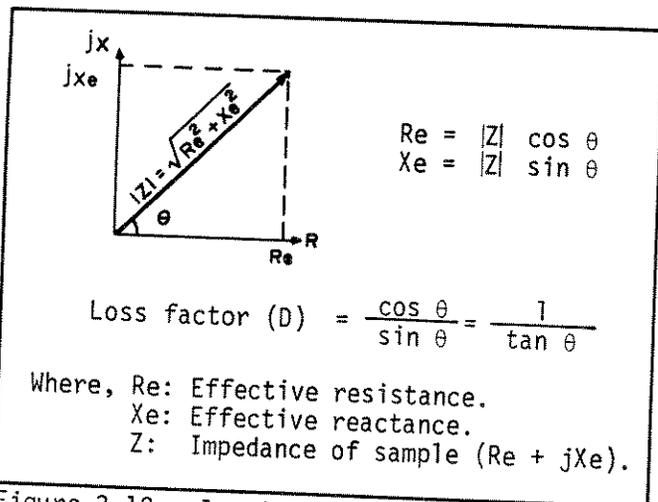

Figure 3-12. Impedance Vector Representation.
Impedance of a component can be expressed in vector representation by a complex number as shown in Figure 3-12. In such representation, the effective resistance and effective reactance correspond to the projections of the impedance vector  $|Z| < \theta$ , that is, the real (R) axis and the imaginary (jX) axis, respectively.